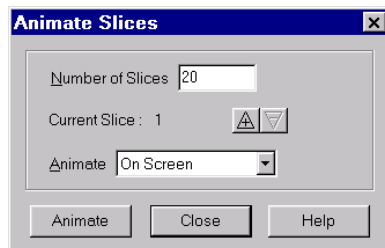

Figure 29-6. The Animate Slices dialog.
Use the Animate Slices dialog to animate a sequence of slices through your data. Use the Slice tool or the 3D Slice Details dialog to configure the start and end slices for your animation. The Animate Slices dialog is shown in Figure 29-6.
2. From the Tools menu, choose Animate, then select Slices. The Animate Slices dialog appears, as shown in Figure 29-6.